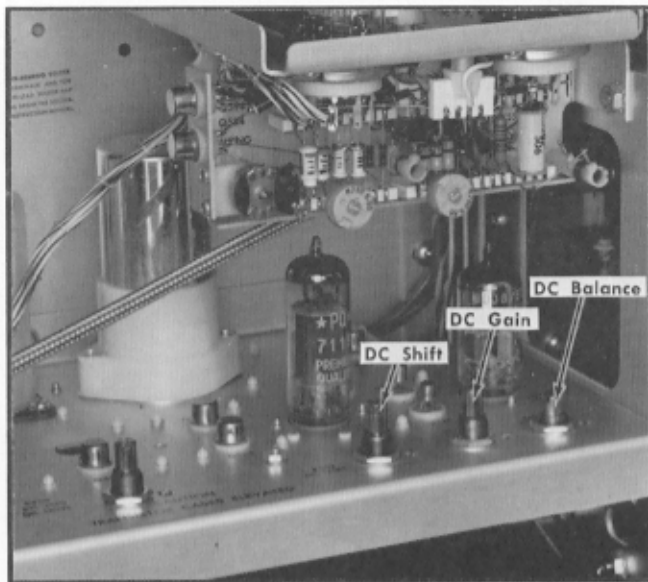

Fig. 6-13. Vertical amplifier DC adjustments.
- b. Adjust the DC Bal R495 (see Fig. 6-13) to position the trace to the horizontal graticule center line.
- Adjust the Gain adjustment R520, (see Fig. 6-13) for a display amplitude of 4 cm.